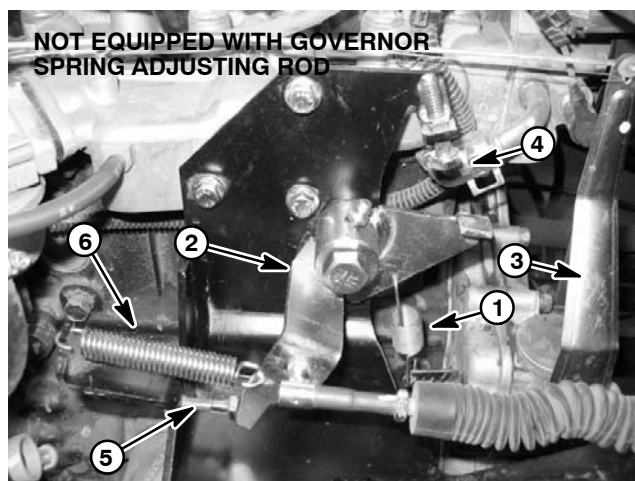

Figure 3
5. Check low idle stop screw adjustment (Figs. 3, 4 and 5). Proper low idle stop screw adjustment will prevent engine run on when the accelerator pedal is released: